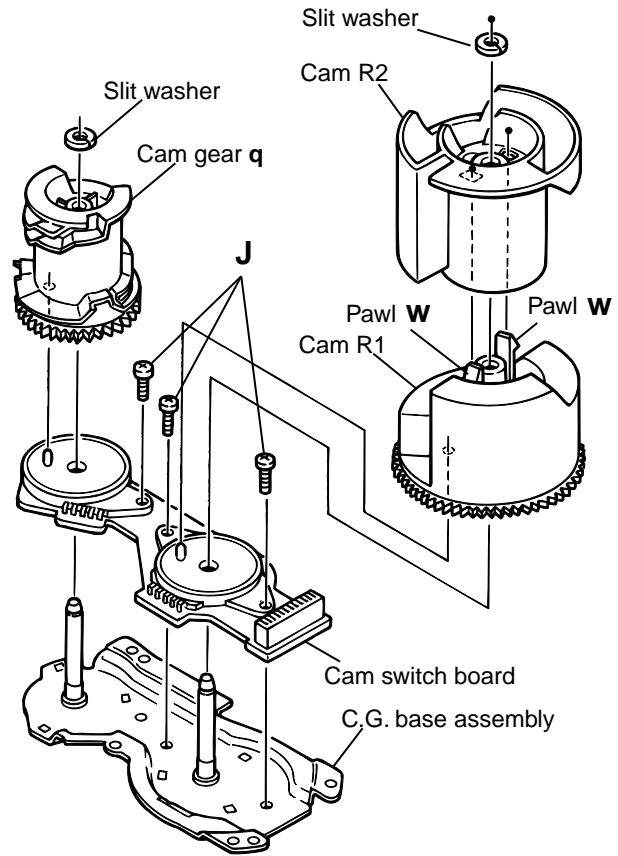

Fig.22
**■ Removing the cams R1/R2 assembly and cam gear q (See Fig.22)**
**■ Removing the C.G. base assembly (See Fig.22 and 23)**